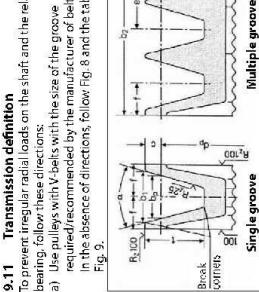

Fig. 8
- b) In the absence of directions, follow Fig. 8 and the table in Fig. 9.